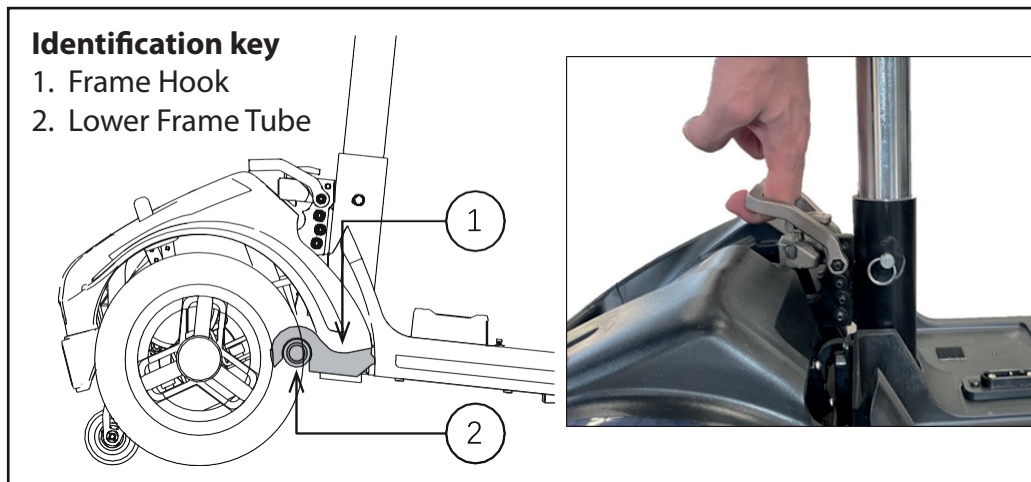

Figure 8. Frame Release Level
ATTENTION – Before attempting assembly, tilt the rear half of the Travel Scooter slightly back on the anti-tip wheels as shown in figure 8.
3. Slowly separate the two parts of the Travel Scooter. See figure 8.
1. Use the front frame release lever to lift the front frame as you align the frame hooks of the front frame with the rear frame tube. See figure 8.
2. Once the frame hooks are over the rear frame tube, lower the front frame and pivot the rear frame simultaneously. This will engage the frame lock-up automatically. See figure 8.